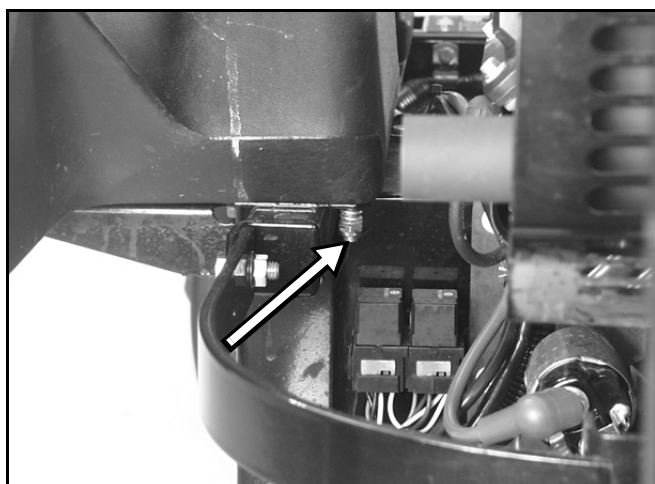

Figure 94
6. Remove the nut and spring assembly securing the rear of the fuel tank to the frame (Figure 94).